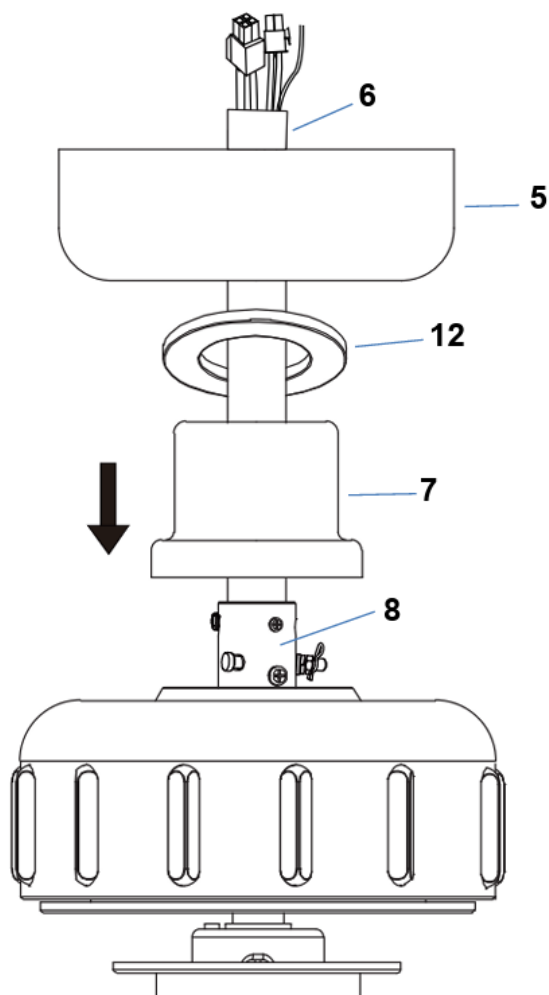
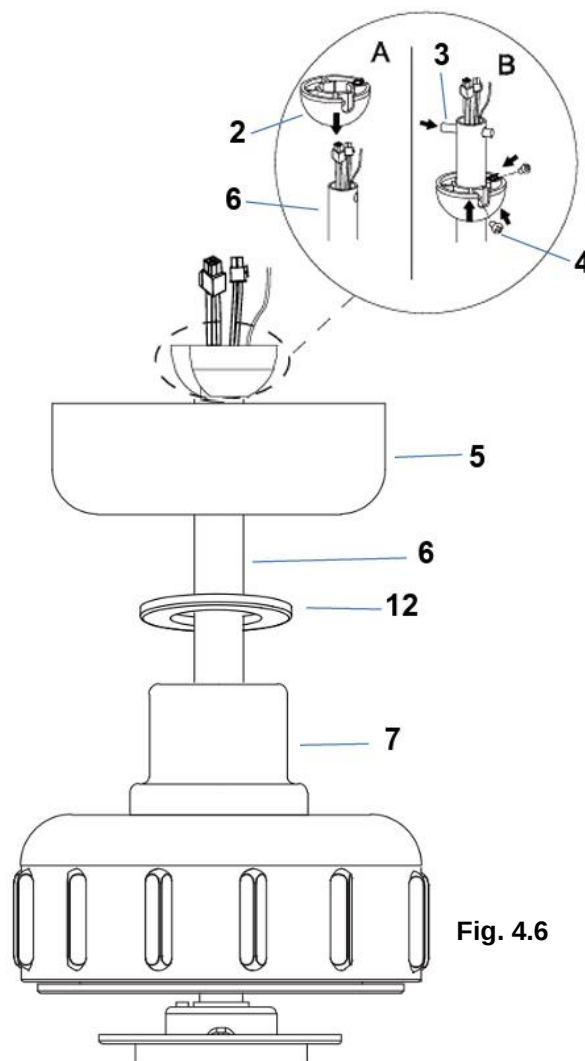

Fig. 4.5
Fig. 4.6
6. Insert the decorative cover (7) onto the down rod (6) to cover the down rod coupling housing (8). (Fig. 4.5)
7. Insert the canopy cover (12) & canopy (5) over the down rod (6) and install the ball joint (2) and dowel pin (3) back onto the down rod (6) and secure by tightening the set screws (4). (Fig. 4.5 & Fig. 4.6)